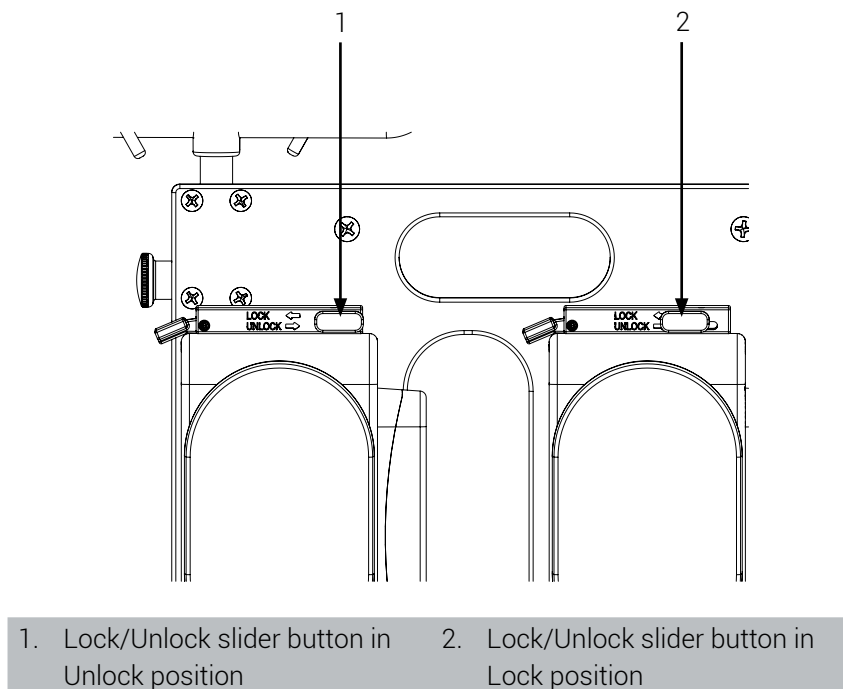

Figure 2: Unlocking the infusion pump holder
1. If the infusion pump holder is locked (Lock), move the lock/unlock slider button to the right to Unlock (Figure 2).